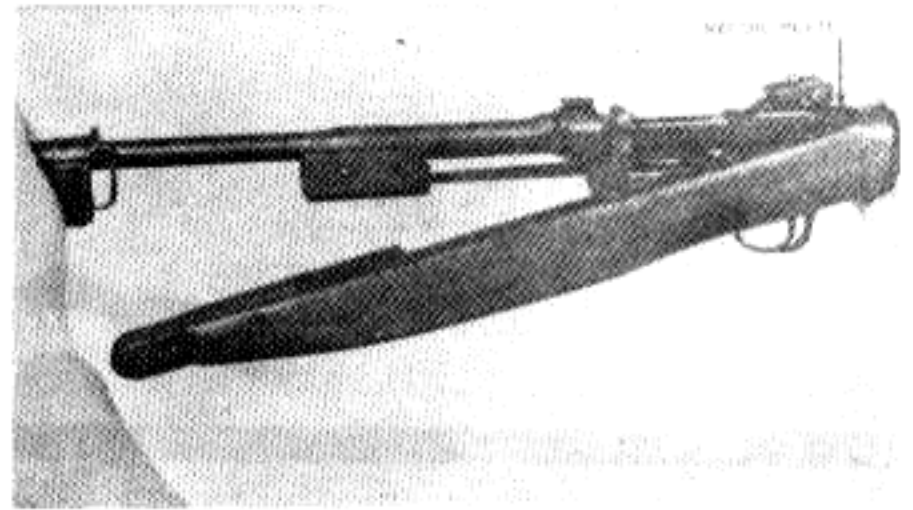

Figure 6. Separating the stock group and the barrel and receiver group.
*e.* Place the carbine on a level surface, muzzle left and sight up. Grasp the small of the stock with the right hand and the barrel with the left hand. Raise the muzzle end of the barrel about 15 degrees until the recoil plate is released from the receiver (Fig. 6). Then separate the barrel and receiver group from the stock group. Place the stock group next to the hand guard.